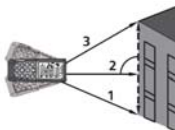

Fig. 10: Misura Indiretta a 3 punti – Modo 1
3. Position the instrument in the lowest point (1) of measurement (see Fig. 10) and press the  key or the side **MEAS** key. The result appears on the first partial display. The symbol “◁” appears on the display with side “2” flashing
4. Position the instrument as horizontally as possible (2) and press the  key or the side **MEAS** key to measure. The result appears on the second partial display. The symbol “◁” appears on the display with side “3” flashing
5. Position the instrument in the highest point (3) of measurement (see Fig. 10) and press the  key or the side **MEAS** key to measure. The result appears on the second partial display